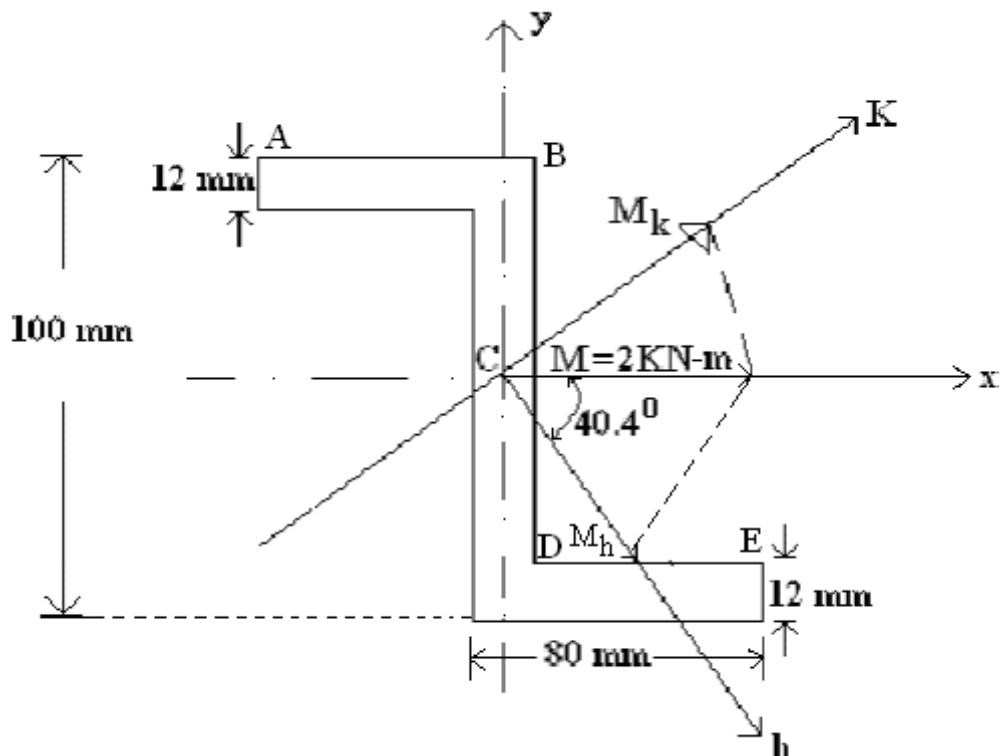

Figure 3
3. A bending moment of 2 kN.m is applied to a Z - shaped beam as shown in figure3. Determine the stress at point A. For the section  $I_X = 4.18 \times 10^6 \text{ mm}^4$ ,  $I_Y = 3.25 \times 10^6 \text{ mm}^4$  and  $I_{XY} = 2.87 \times 10^6 \text{ mm}^4$ . [16]